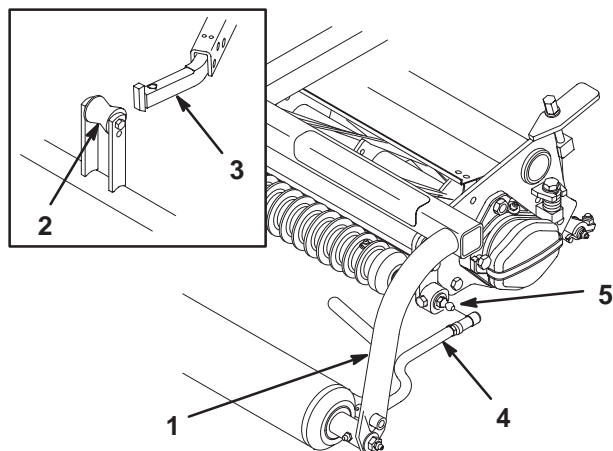

Figure 9
2. Mount a washer and ball stud to each end of the front roller on the cutting units (Fig. 9).
3. Slide the cutting unit under the pull frame while hooking the lift roller onto the lift arm (Fig. 9).
4. Slide the sleeve back on the ball joint and rotate the pull arm down so the socket fits over the ball stud. Release the sleeve so it slides over the stud and locks the assemblies together (Fig. 9).